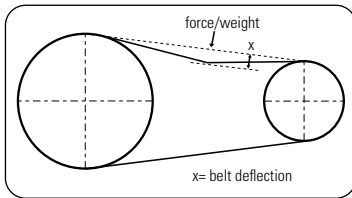

FIGURE 8.15 - BELT DEFLECTION
- Push the motor backwards until reaching the desired tension on the belt (Figures 8.15 and 8.16).
- The deflection should be $1/2''$ ($x = 12,5\text{mm}$) + 10% (Figures 8.15 and 8.16).
- When operating in places with a voltage different from the indicated, use a voltage transformer (not supplied with the product). Check the alignment of the pulleys and the belt tension before the first use (Figures 8.15 and 8.16).
A. Check the tension and the condition of the belt(s) (Figures 8.15 and 8.16).